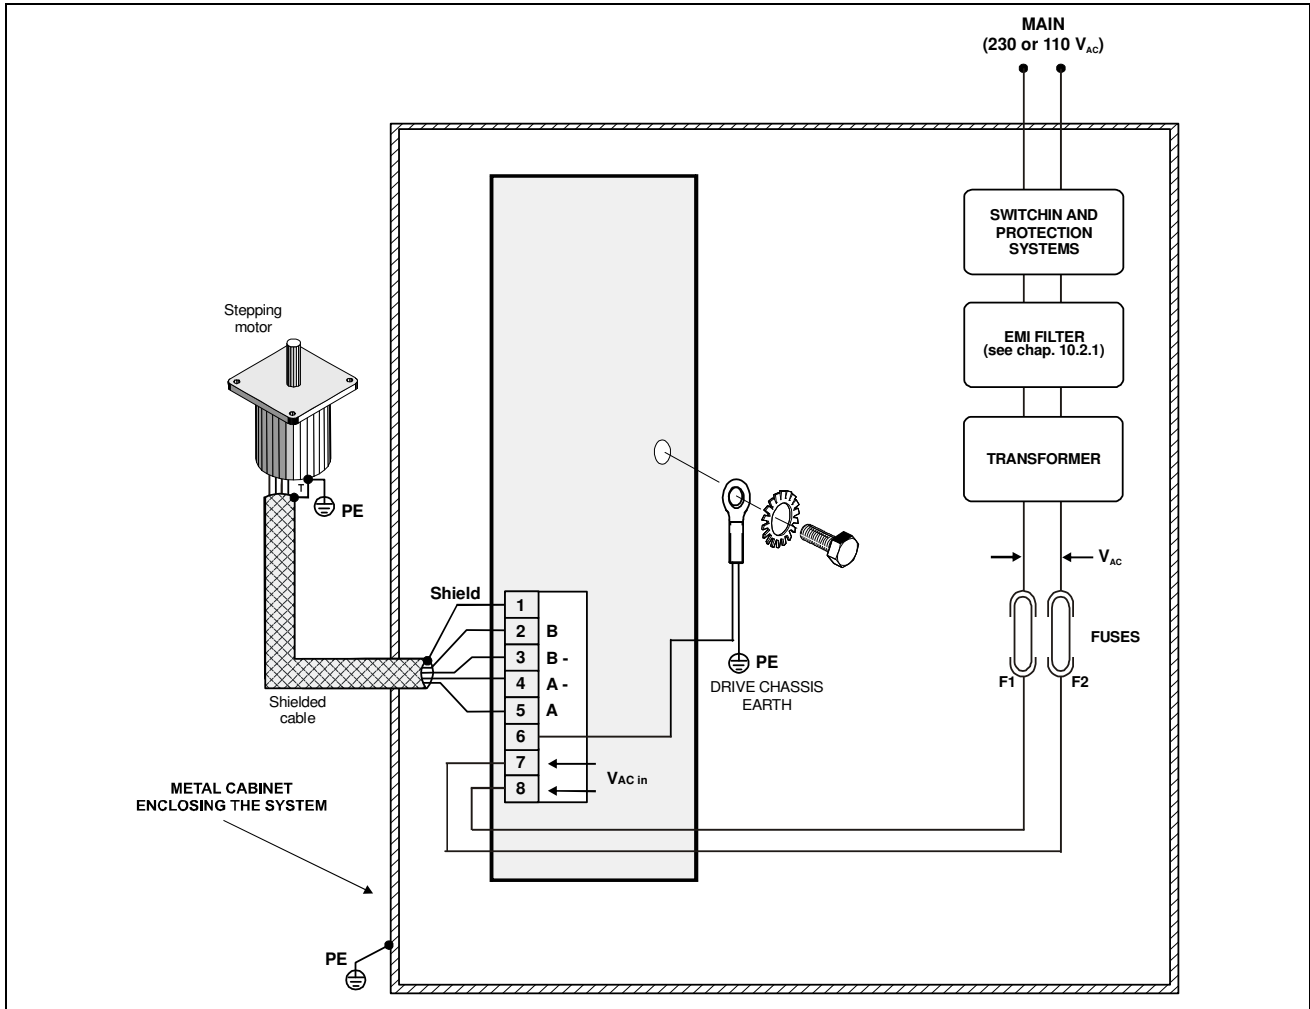

Fig. 8 – Drive external connections scheme.
5.3- The terminal indicated as GND is the point of motor-drive system that has to be connected to earth (PE terminal) in order to guarantee the correct operation of some drive protection systems. No other point at a different potential of logic circuit and of power circuit has to be connected to earth; in particular has not to be connected to earth transformer secondary winding. Shield of shielded cables of motor outputs must be connected to terminal 1 of C1 connector and shield of shielded cables of signal outputs must be connected to PE with connection with the less possible length. Furthermore it is important to note that GND terminal is internally connected to terminal 1 of C1. See connection schemes of Fig. 8, 15 and 16.
- 7.3- The use of one secondary winding for more drives (max 3 drives) is allowed only if the total power required by the drives is less than 600VA. In any case, two fuses (F1 and F2 showed in Figure 8) for each drive must be used.
- 7.4- **Branch circuit protection fuses F1 and F2 (see Fig. 8) must be 10 Amp, at least 250 Volt with I^2t between 150 A^2s and 400 A^2s (for example Cooper Bussman model KTK-R-10 or Littelfuse 215010.P).**